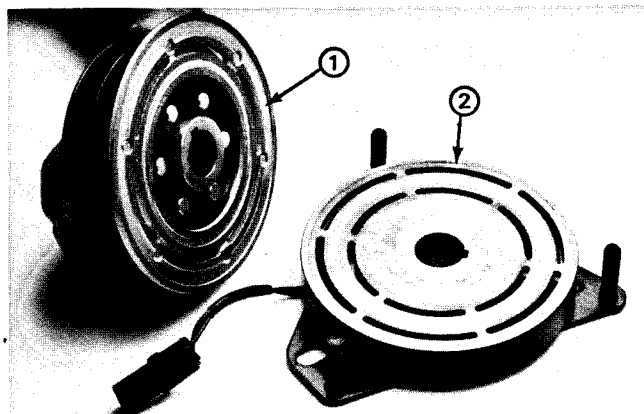

Figure 27
4. Separate the armature & pulley assembly from the field rotor assembly (Fig. 27).